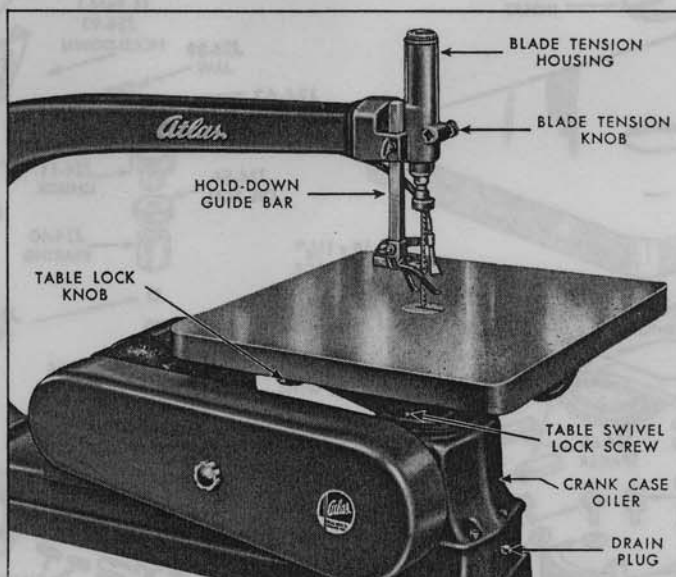

Fig. 6 Controls on the ATLAS 24" Jig Saw.
1. Knob at rear of saw table controls the table tilt lock, see Figure 6. The table can be tilted 0 to 15 degrees to the left—and 0 to 45 degrees to the right. The angle of tilt is shown on the graduated scale.
2. The Allen type machine screws (see Figure 6) located on the table trunnion bracket beneath the table control the table swivel lock. Entire table assembly may be swiveled 90 degrees to permit cutting any length stock from side of saw—table tilts 45
7. The knurled knob on right side of saw arm (see Figure 6) controls the blade tension housing. Loosen the knob to adjust housing for various length blades.